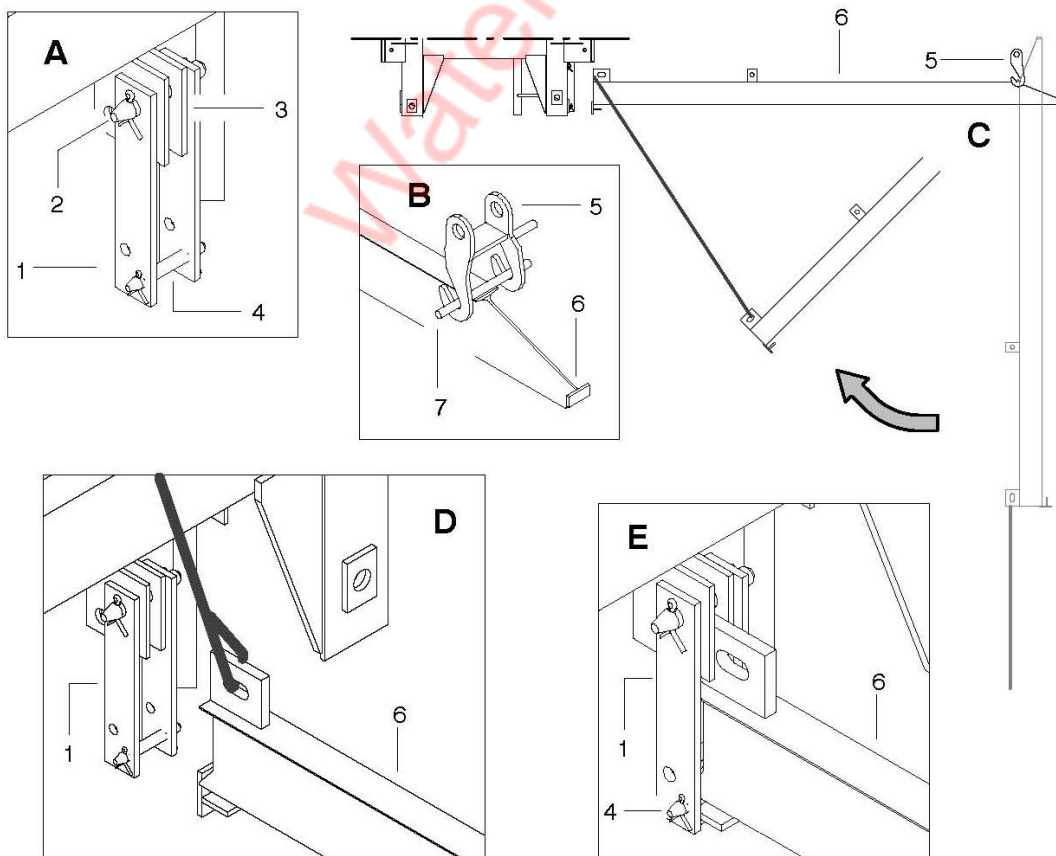

Figure 1
- _ Fit the plates (1) by means of the shafts (2) onto the gussets (3) of the telescoping mast. Fit the shafts (4) onto the plates (1) (Figure 1 – Detail A).
- _ Using the telescoping hook (5), pick up the monorail (6) by the round bar (7) (Detail B – Figure 1) and fix a cord on the other end.
- _ Using the cord, raise and pin-connect the monorail to the plates (1) by means of the shaft (4) (Detail C – D – E – Figure 1).